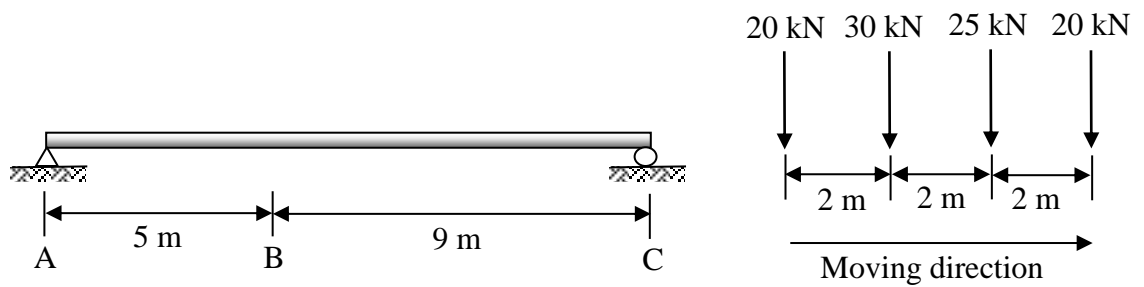

Figure 2(a) / Rajah 2(a)
- (a) A simply supported beam is subjected to a series of moving loads as shown in **Figure 2(a)**. By using Influence Line Diagram, analyze the maximum shear force and bending moment at point B due to a series of loads moving from A to C.